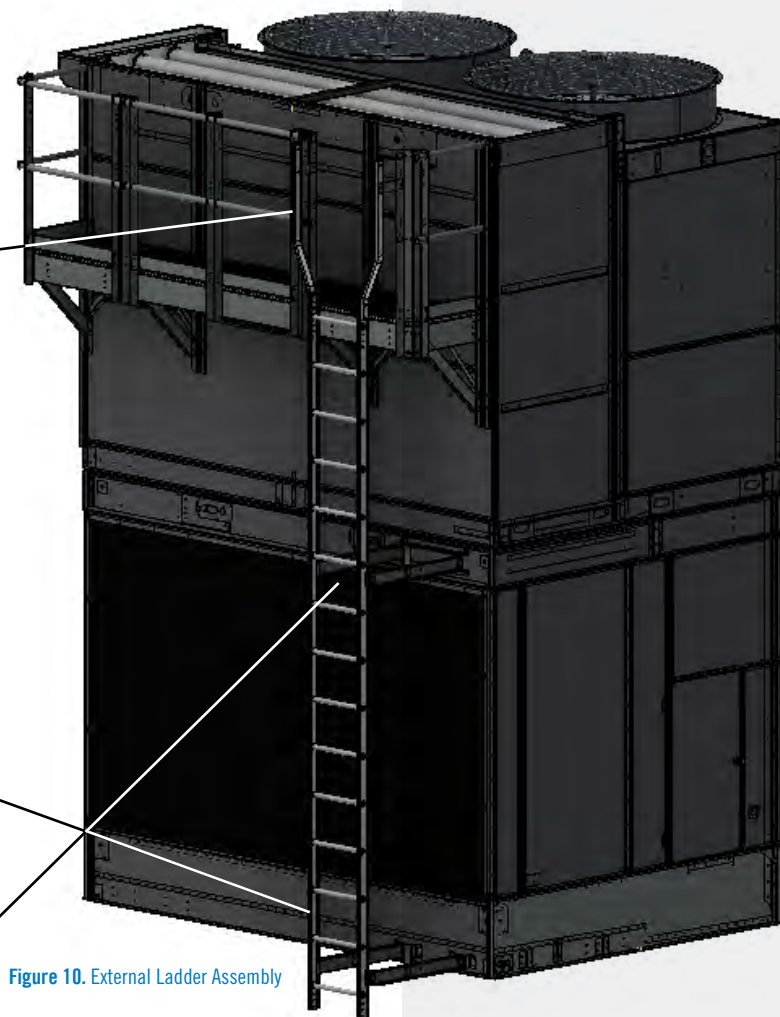

Figure 10. External Ladder Assembly
1. Assemble lower support assembly as shown, and attach assembly to unit using the lower support bracket. See **Figure 10, Detail B**.
2. Assemble mid support assembly as shown and attach assembly to unit. See **Figure 10, Detail C**.